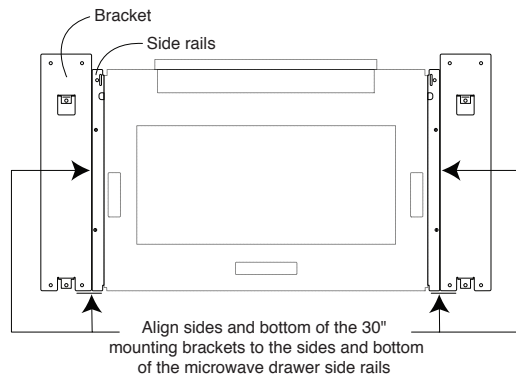

**Figure 4**
6. Close drawer to complete oven installation. See Figure 4.